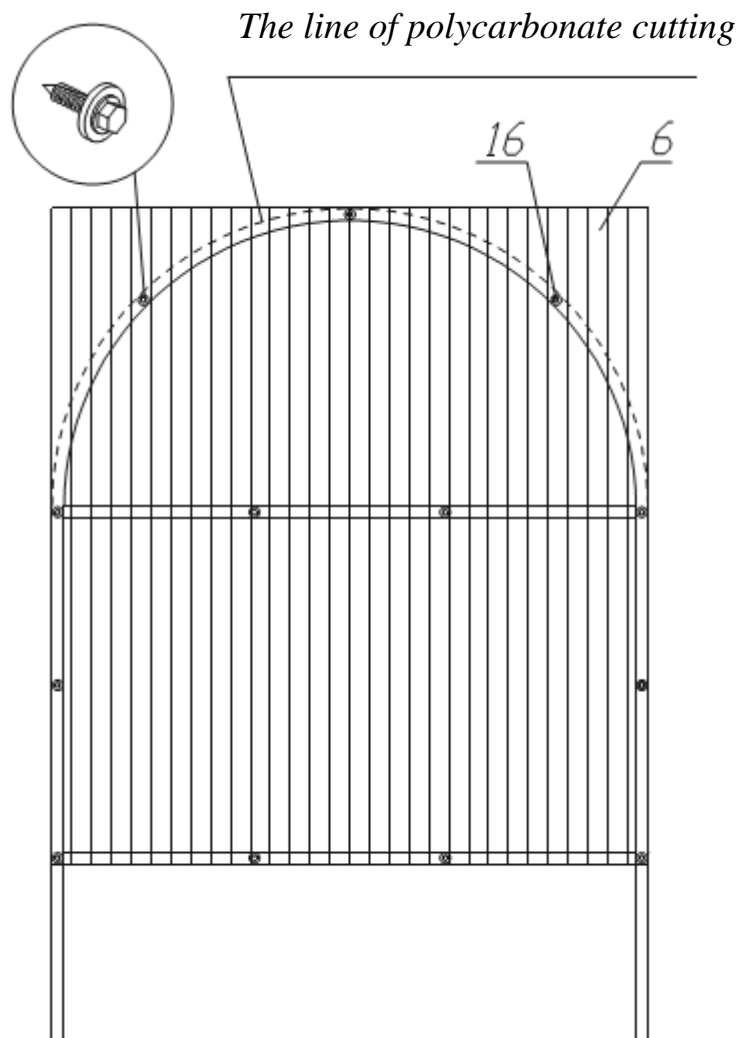

Fig. 1
2.2 Fix the polycarbonate with self-tapping screws of **5.5x25** (Position 16) (Figure 1). Cut the polycarbonate exactly along the arc. Cover the second end face in the same way. Cellular polycarbonate cutting is carried out by means of a utility knife with a retractable blade.